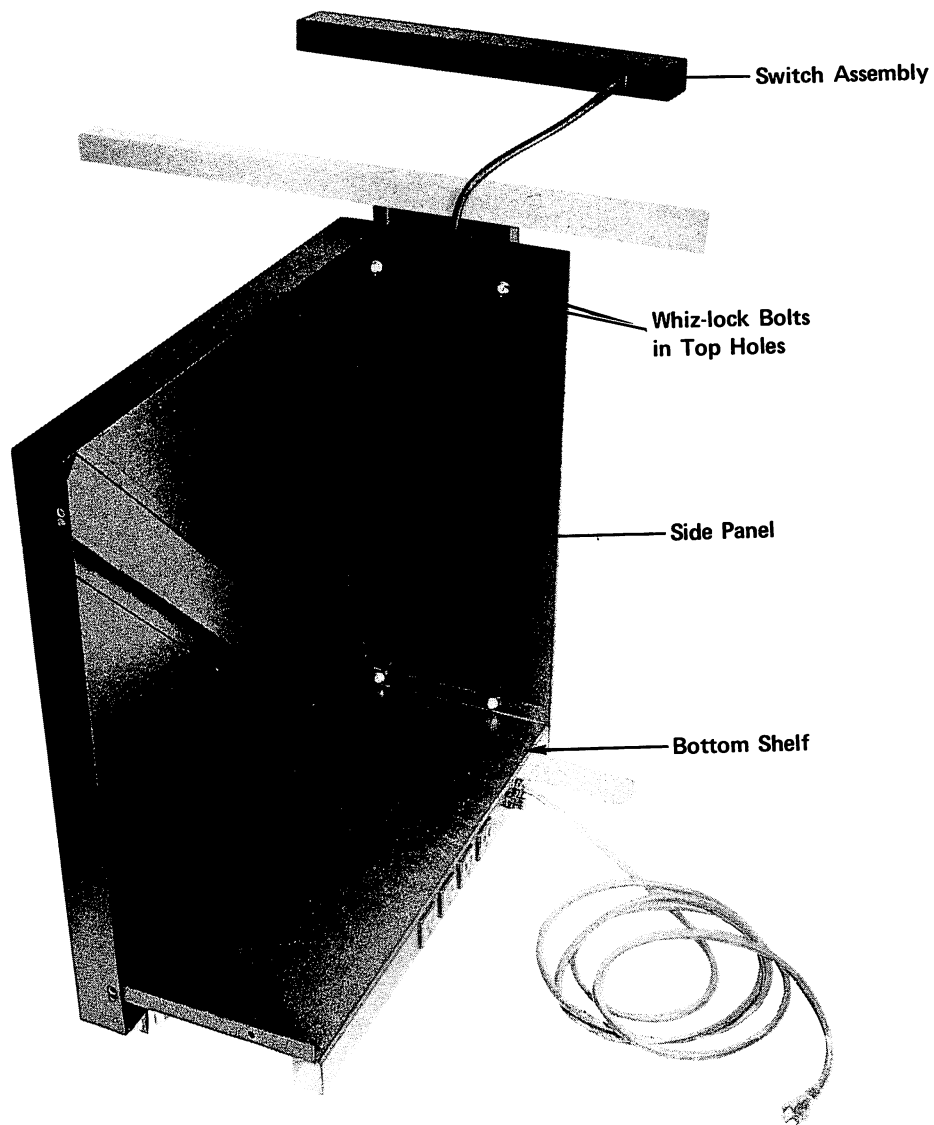

Fig. 3
1. Very carefully, place the front cover panel and the left side panel inside the left leg assembly; the cord to the switch assembly is now between the panel and the leg assembly (see Fig. 3).
2. Line up the **top** holes of the left side panel and front cover panel with the 2 holes in the left leg assembly, as shown in Fig. 3.